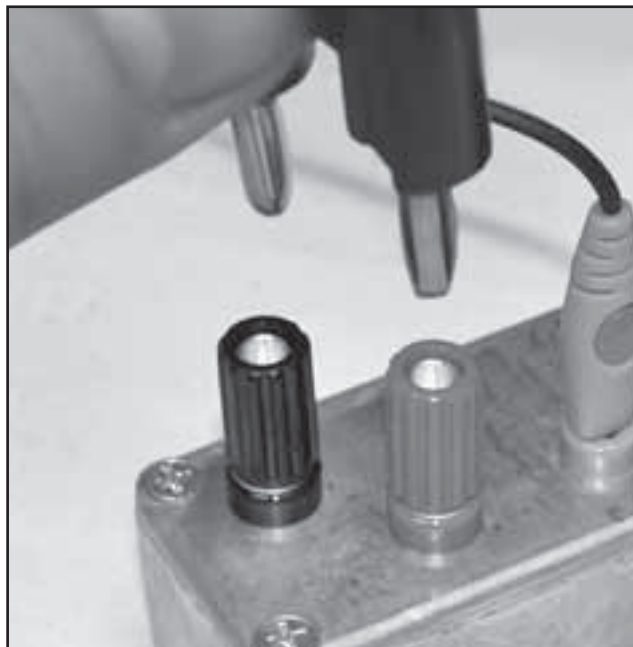

FIGURE 5.40
7. Make certain the Audio Signal Generator is set up per 5.16, part B, steps 1, a) through 1, g). Connect the Audio Signal Generator Test Leads from the Generator SYNC Ports to the Attenuator (make certain test leads are connected red to red and black to black). See Figure 5.40.